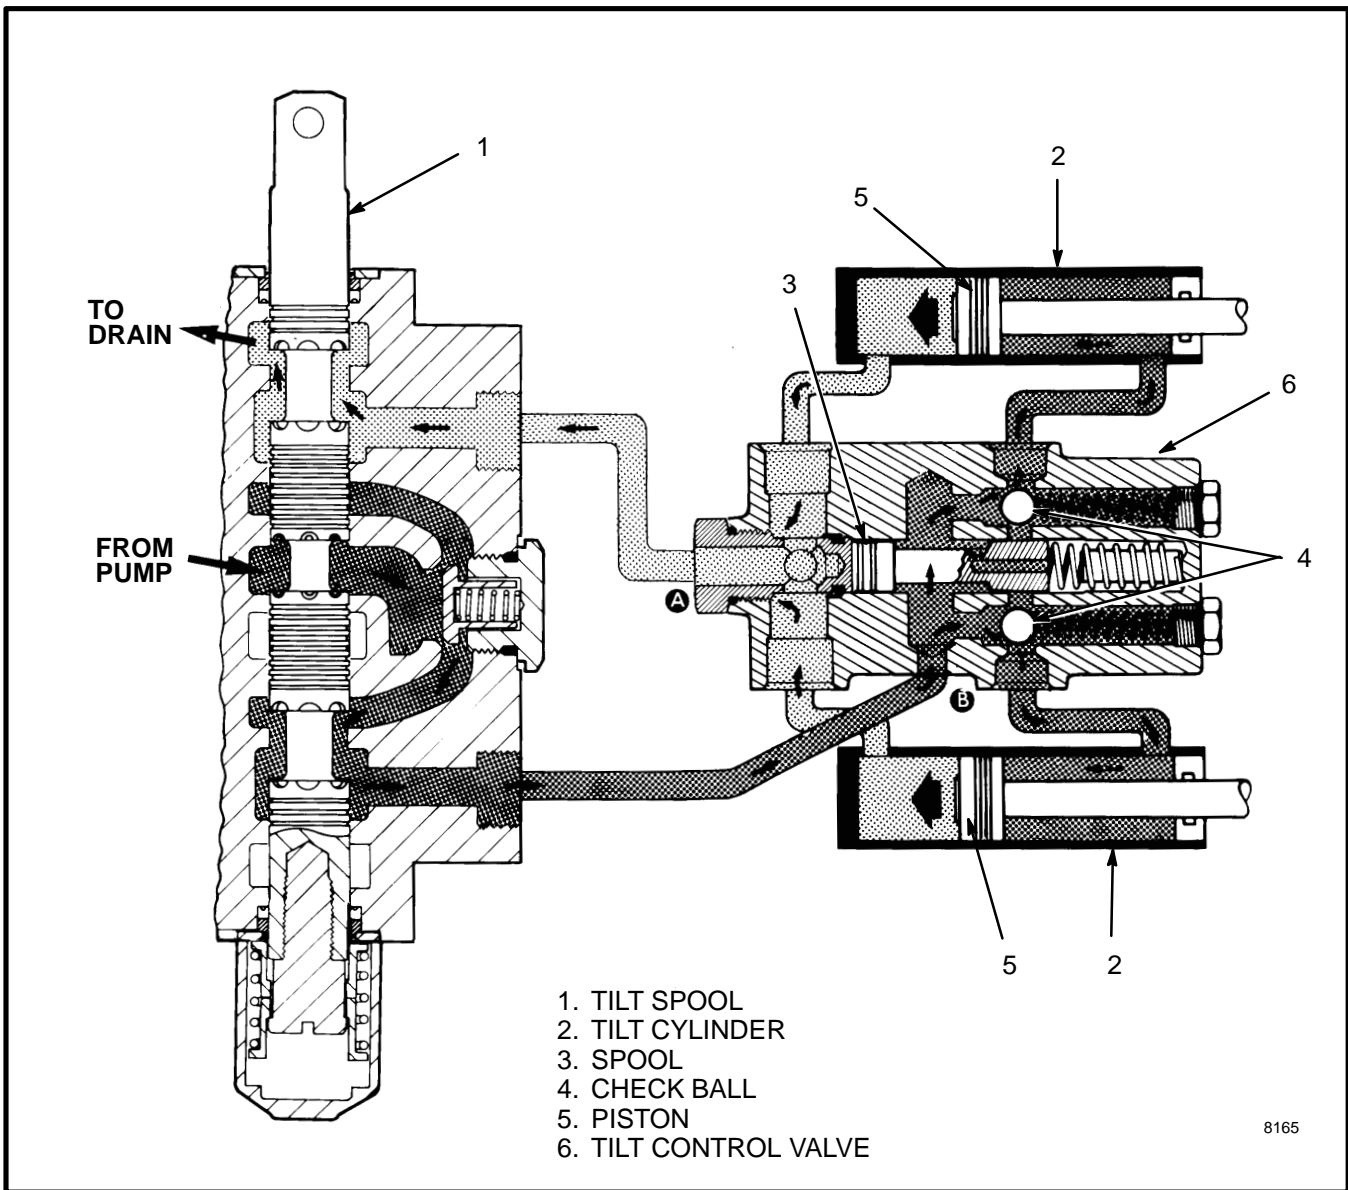

FIGURE 2. TILT BACKWARD
**Tilt Backward (See FIGURE 2. and FIGURE 3.)**